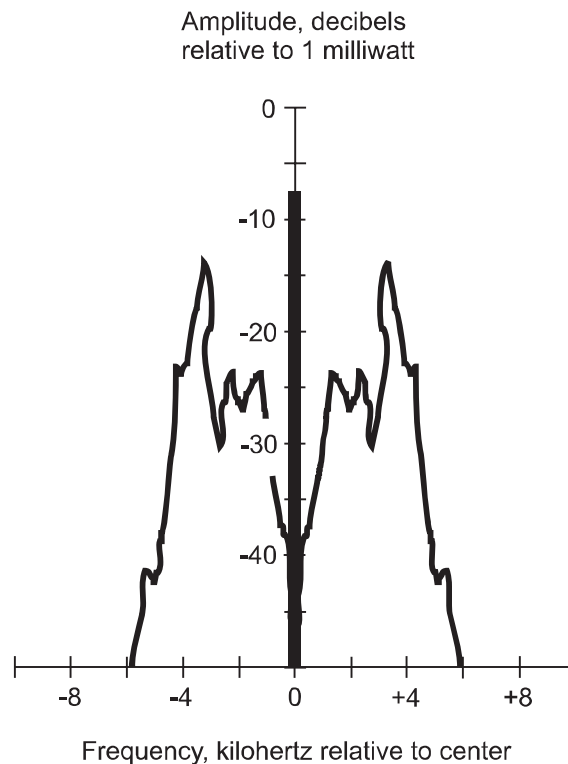

Fig. 2-8. An AM radio signal as it might look on a spectrum-analyzer display.
Irregular waves can produce all sorts of weird frequency-domain displays. An example is shown at Fig. 2-8. This is a spectral display of an amplitude-modulated (AM) voice radio signal. Much of the energy is concentrated at the center of the pattern, at the frequency shown by the vertical line. There is also plenty of energy near, but not exactly at, the center frequency. (For now, don't worry about what the "decibels relative to 1 milliwatt" label on the vertical axis means. It's just a way engineers represent signal amplitude.)